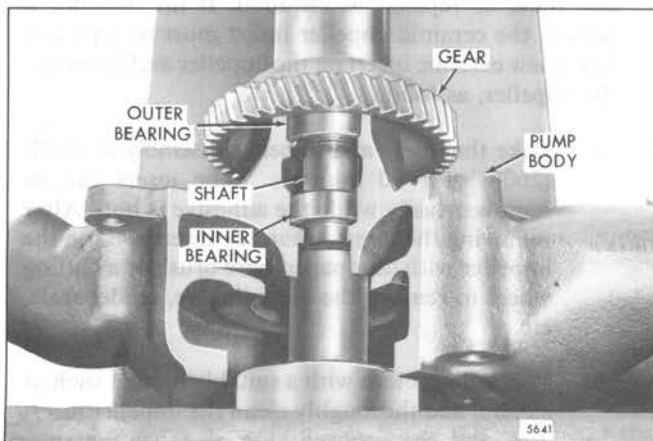

Fig. 13 – Pressing Gear on Pump Shaft using Tool J 25257
5. With gear installer J 25257 positioned on the impeller end of the shaft, place the gear between the shaft and the ram of the press (Fig. 13). Press the gear on the shaft so it is flush with the end of the shaft. Tool J 25257 will hold the shaft vertically to ensure the gear is pressed squarely on the shaft.